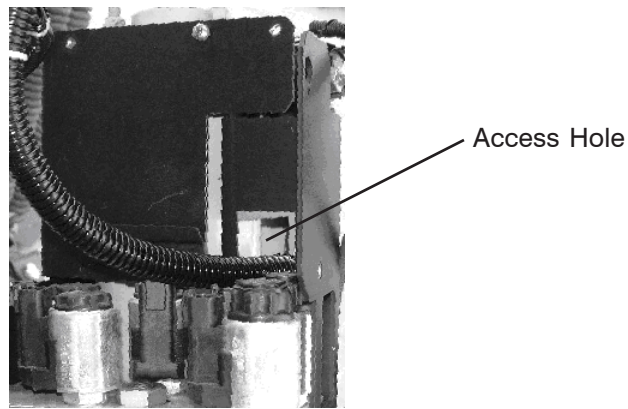
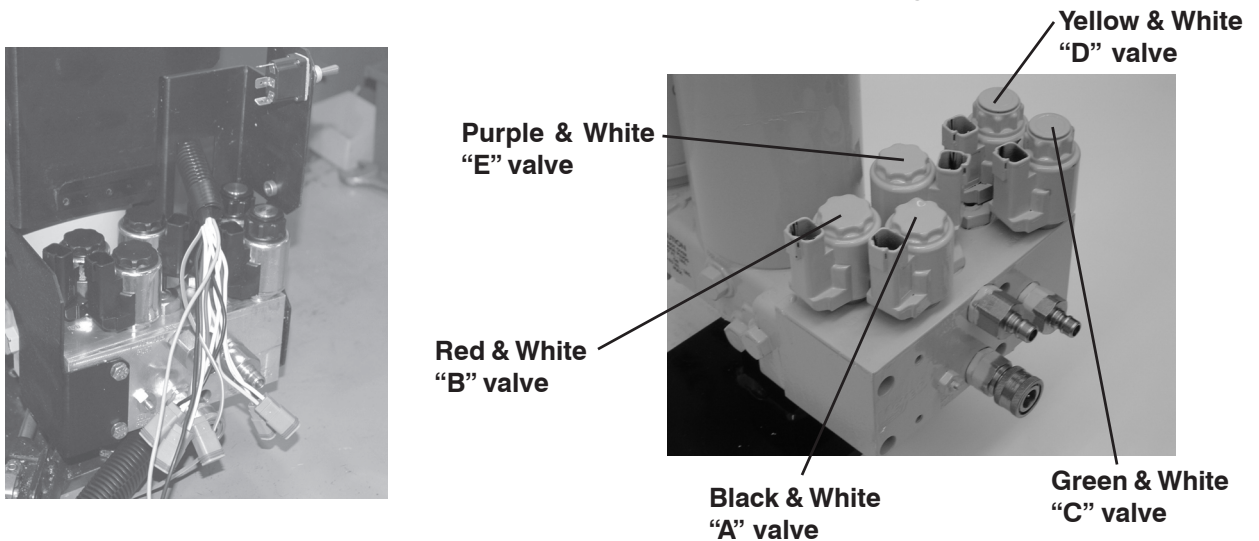

FIGURE 7
FIGURE 8
6. The PCM can now be completely removed from the hydraulic unit by sliding the large PCM cable through the cable access opening in bracket as shown (figure 7). **Do Not Discard.**
10. Route harness through bracket access hole (figure 7) and attach the 5 plugs from Xpress Plow Side Harness (3) to the solenoid coils as shown below (figure 8).